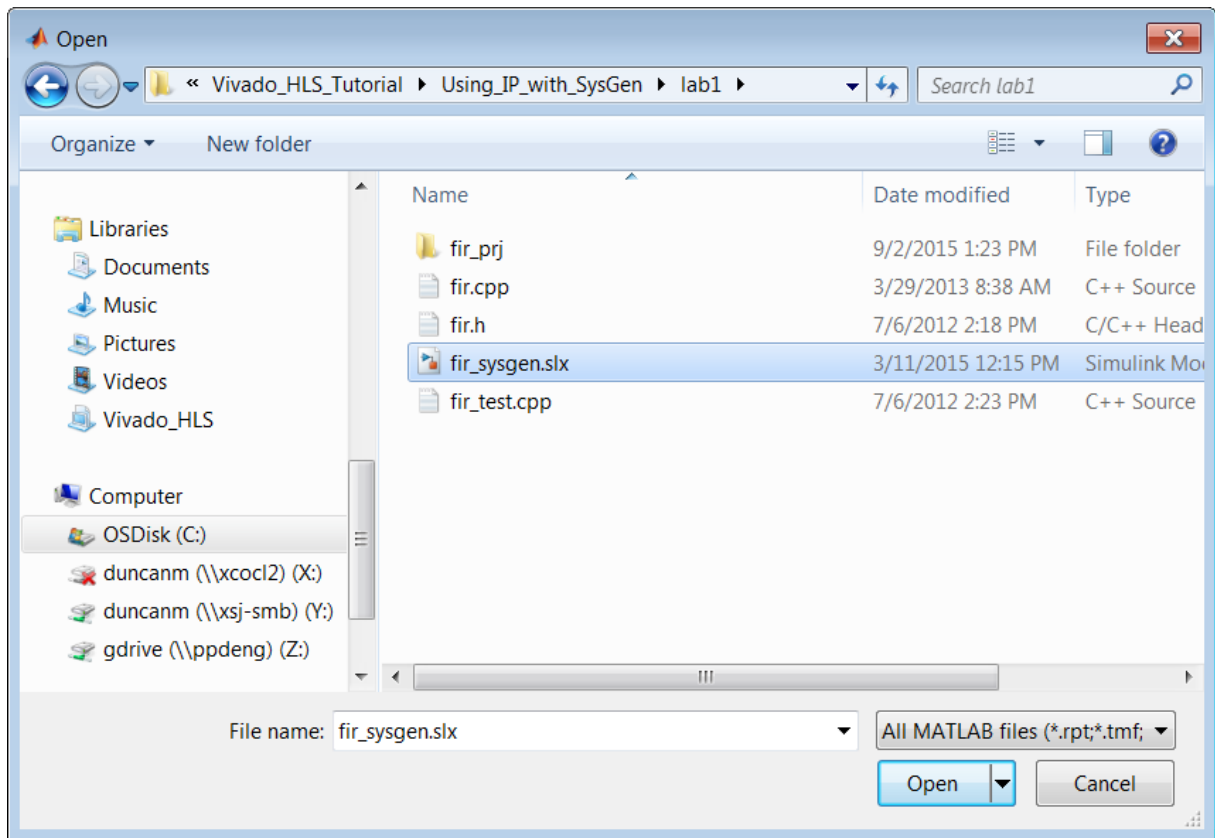

Figure 11-4: Select File fir_sysgen.slx
- Navigate to the tutorial directory `Vivado_HLS_Tutorial\Using_IP_with_SysGen\lab1` and select the file `fir_sysgen.slx`, as shown in Figure 11-4.